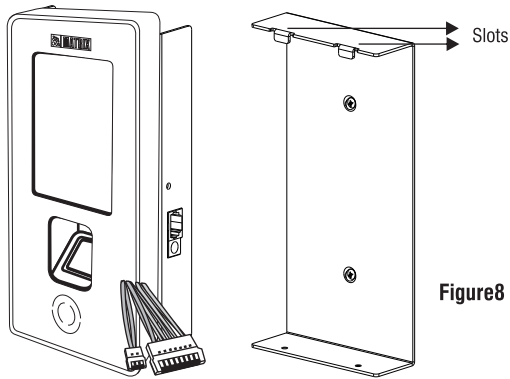

Figure8
2. Fix the complete unit from the top into the two slots as shown in Figure8.